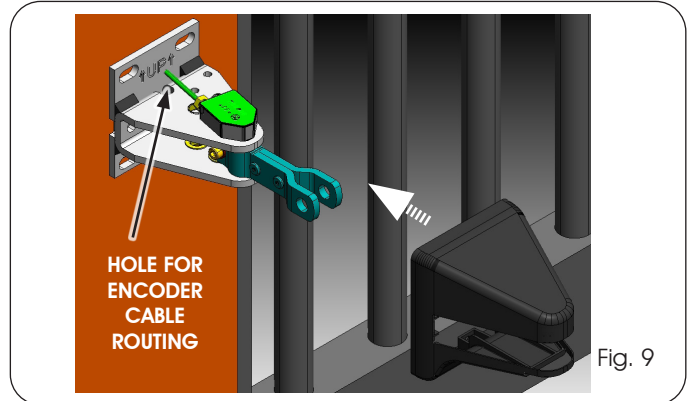

Fig. 9
4. Slightly press the protection cover on the rear bracket until it locks in position (Fig. 9).